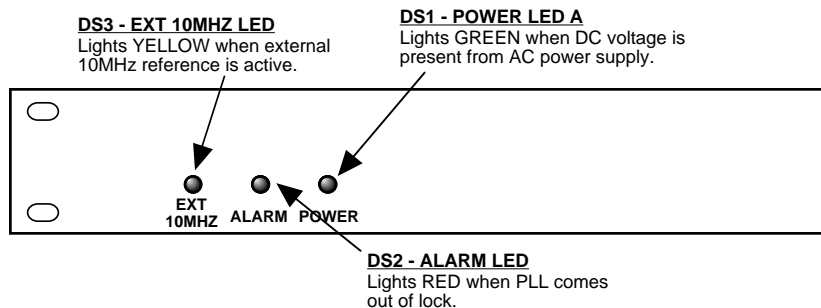

FIGURE 2.2 2116-117 Front Panel Controls and Indicators
Figure 2.2 shows the front panel indicators.
4. Be sure DS1 (green, DC Power) is on and DS2 (red, Alarm) is off (Figure 2.2).
6. If EXT is selected or AUTO is selected and there is a 10MHz, 3 dBm signal at J2, check that DS3 (yellow, Ext 10MHZ) is on (Figure 2.2).